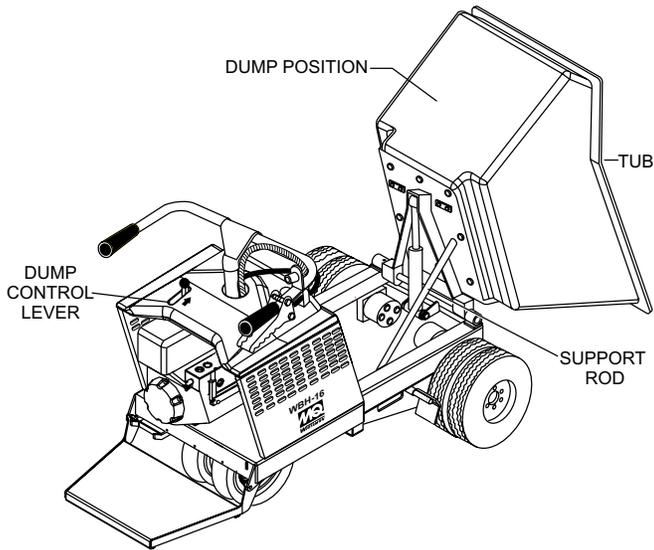

Figure 2. Tub Dump Position
2. Place the tub (Figure 2) in the vertical position by moving the dump control lever forward.